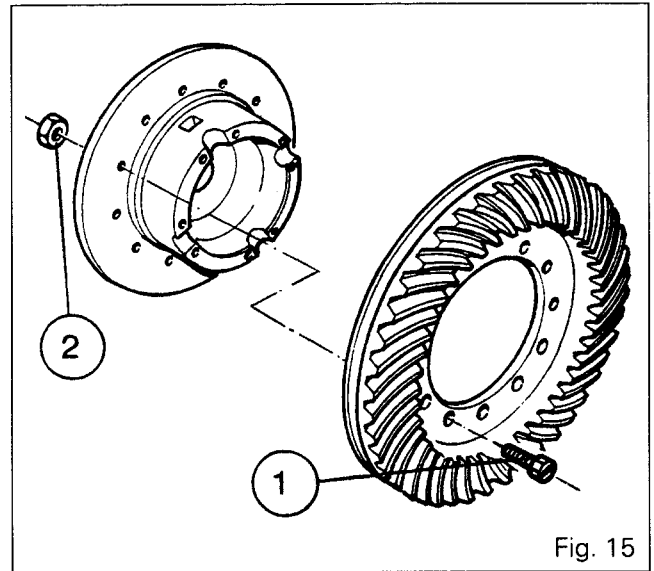

Fig. 15
67. Clean the contact faces of the new crownwheel (23) and of the carrier (29) and the screws and nuts referred to in the spare parts catalogue.
68. Smear the screws (1) (Fig. 15) with Loctite 270 on the first threads and place them in the crownwheel and carrier.
69. Tighten and lock the nuts (2) (Fig. 15) to a torque of 150 -160 Nm.